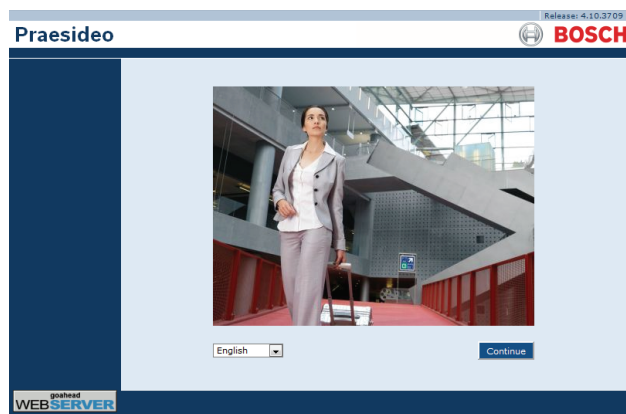

figure 41.1: Home page of the Praesideo web interface
- 2 Enter the IP address of the network controller in the address bar. A screen similar to the one in figure 41.1 appears.
After clicking the *OK* button, a screen similar to the one in figure 41.1 appears. Logging on to the off-line version of the web interface is similar to logging on to the 'real' web interface.